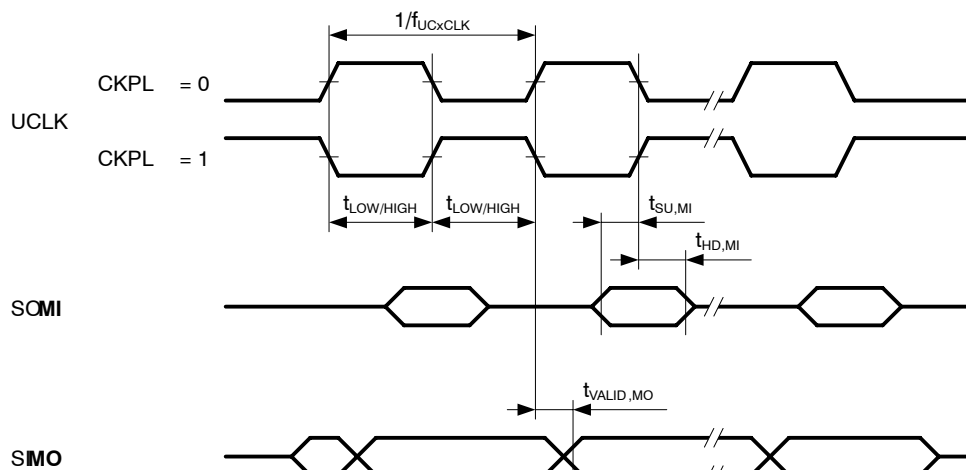

Figure 18. SPI Master Mode, CKPH = 0
**USCI (SPI Master Mode, see Figure 18 and Figure 19)**